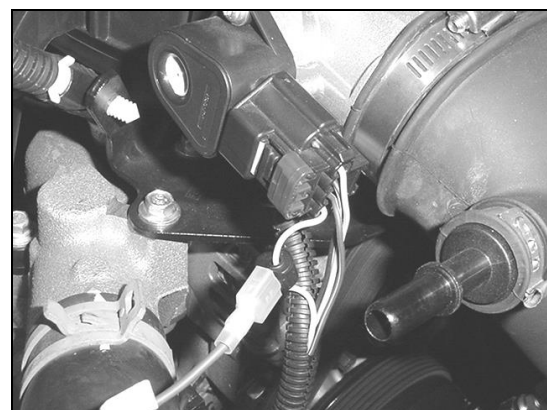

Figure 19
12. Connect the yellow / white striped wire on the WOT/Window Switch to the yellow / white striped on the car TPS sensor. **See Figure 19.**